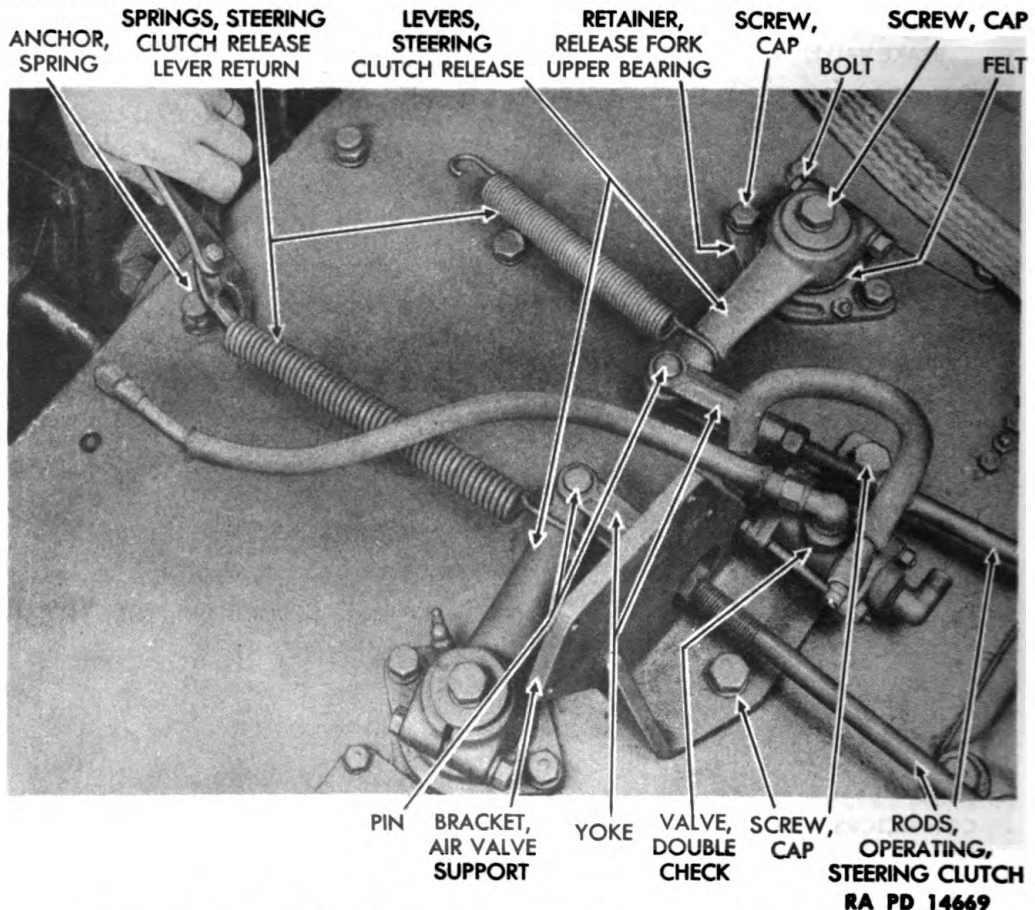

Figure 89 — Clutch Release Lever Return Springs Removal
(5) REMOVE STEERING CLUTCH RELEASE LEVERS AND RETAINERS (fig. 89).